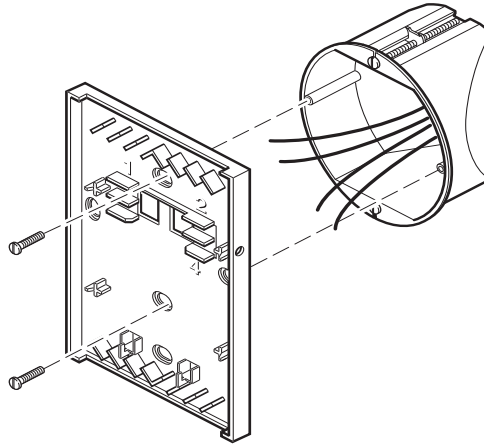

Figure-5 1/4 DIN Electrical Box Mounting.
Caution: Failure to use vertical mounting holes as shown in Figure-5 may cause a short of the LONWORKS network.
4. Using two appropriate screws (not provided), mount base plate to electrical box using vertical mounting holes indicated in Figure-5.